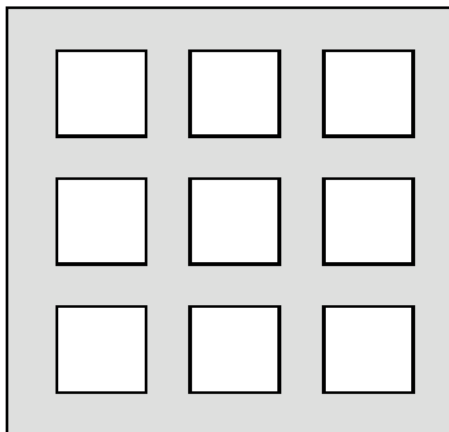

Figure 10: Solder paste application on exposed pad
3. For the PCB thermal pad, solder paste should be printed on the PCB by designing a stencil with an array of smaller openings that sum to 50% of the QFN exposed pad area. Solder paste should be applied through an array of squares (or circles) as shown in Figure 10.